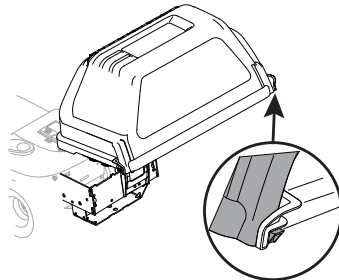

Figure 12
7. Swing the hood assembly down to close the attachment. Push in on the rear right-side and rear left-side tabs and lock them into place under the notches on each side. Ensure a secure, snug fit. See Figure 12.